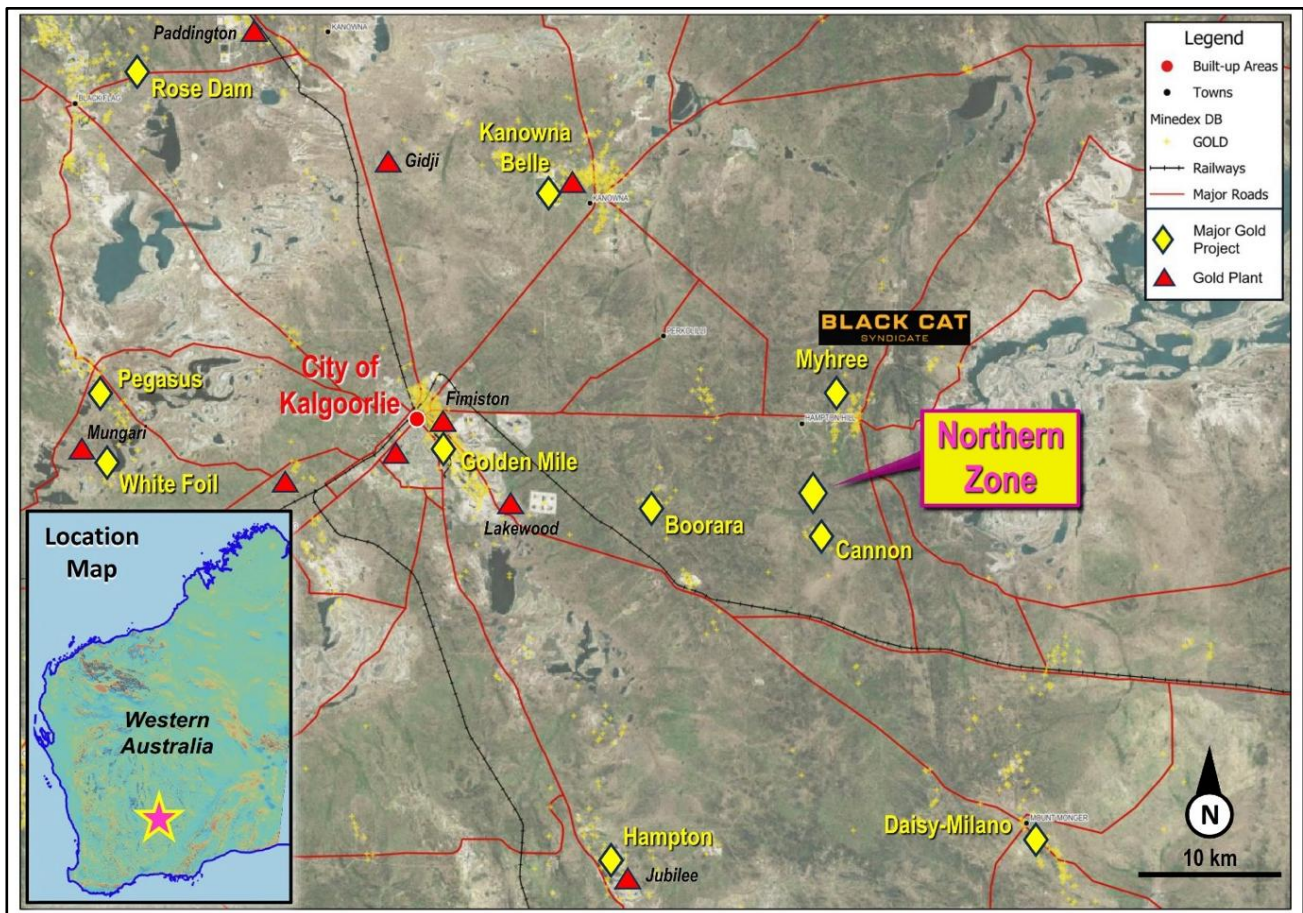

Figure 1: Northern Zone Project Map showing proximity to the Kalgoorlie "Super Pit".
Riversgold Limited (ASX: RGL, Riversgold or the Company) is pleased to announce the assay results from the final four (4) angled reverse circulation (RC) drill holes of an 11 hole 1,289m program recently completed at the Northern Zone Intrusive Hosted Gold Project, located 25 km east of Kalgoorlie in Western Australia (refer to **Figure 1** for location). A further 1,303 samples from a 1,805m vertical drill program have been submitted to the assay laboratory, with results expected over the coming weeks.